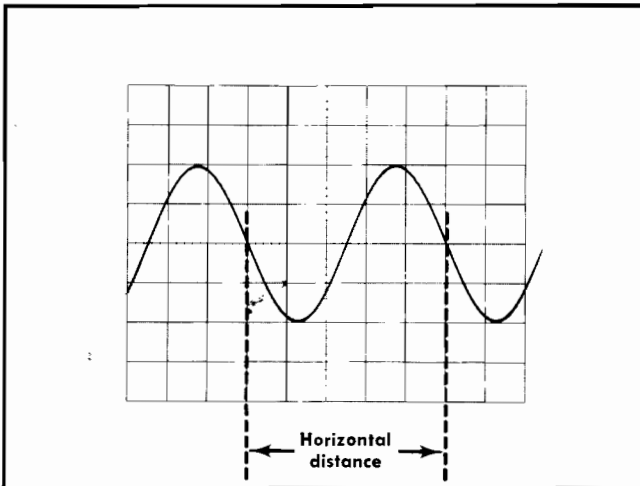

Fig. 2-4. Measuring time duration (period) between points on a waveform.
2. Set the time-base triggering controls to obtain a stable display. Set the Seconds/Div switch to the fastest sweep rate that will permit displaying one cycle of the waveform in less than eight divisions (some non-linearity may occur in the first and last graticule divisions of display). Refer to Fig. 2-4.
EXAMPLE: The frequency of the signal shown in Fig. 2-4, which has a period of 0.5 millisecond, is: